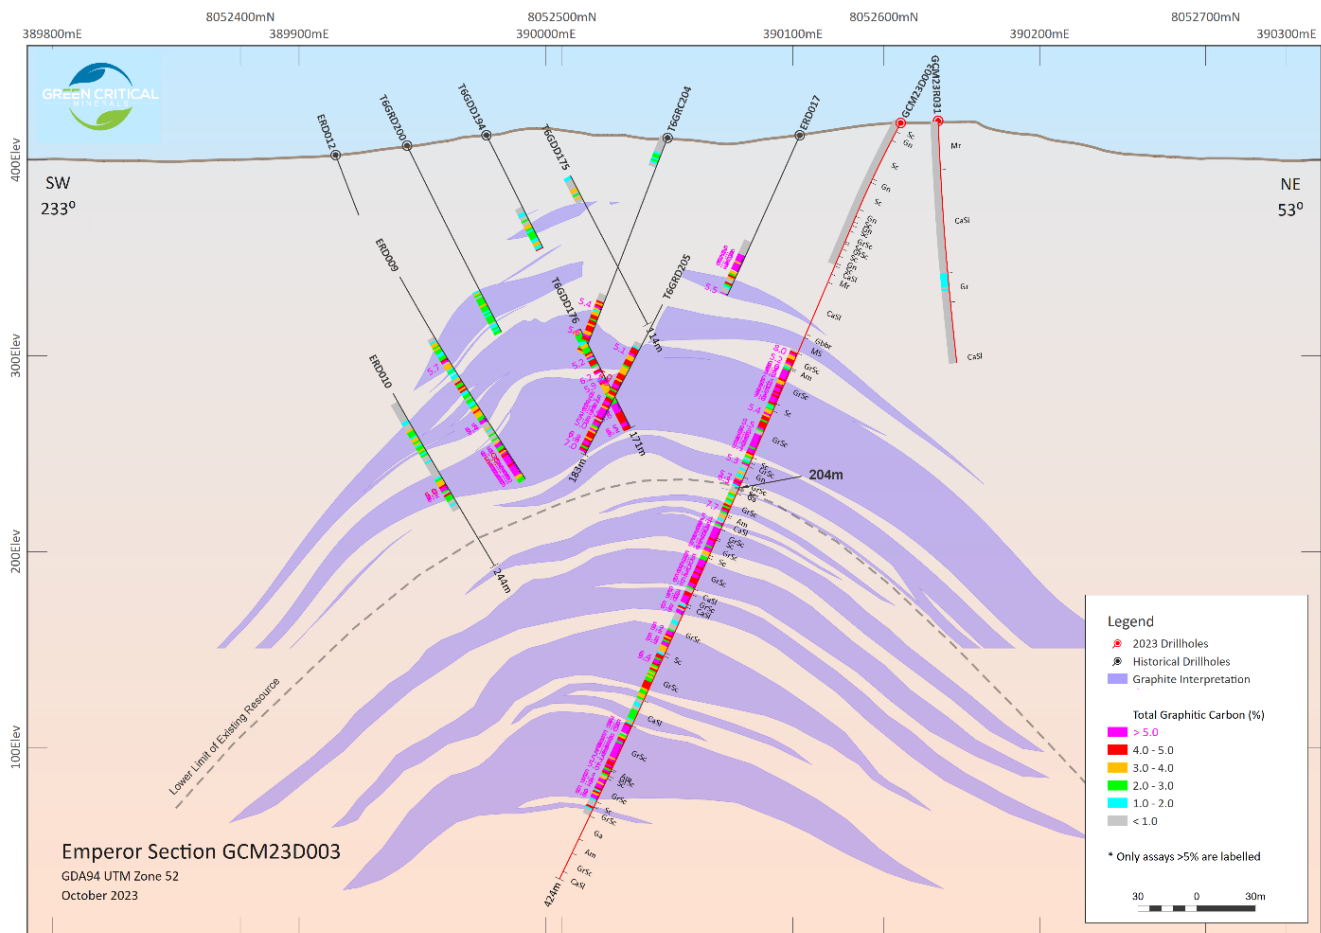

Figure 1 – Cross section of GCMDD003 through the Emperor Target
- Discovery hole GCMDD003 targeting the limb and depth extension of the Emperor deposit has intersected a 250m @ 3.9% graphite zone from 129m, intersecting a previously unknown and untested repeat graphite zone below the Emperor resource, significantly increasing its scale (Figure 1).
extension of 184m to the known mineralized package at Emperor, uncovering a previously untested repeat graphite zone (see Figure 1). Significant results intersected in GCMDD003 are listed in Table 1. Please refer to Table 2 for full results.